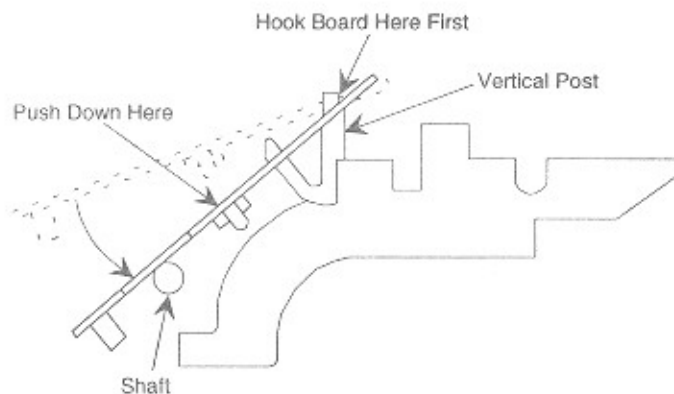

Figure 4-10A. Mounting the Cell Assembly
1. To replace the assembly on the lower track, set the transport upside down. Hook the board over the vertical post, pull the catch back, then push down on the board to snap it under the catch (See Figure 4-10A).